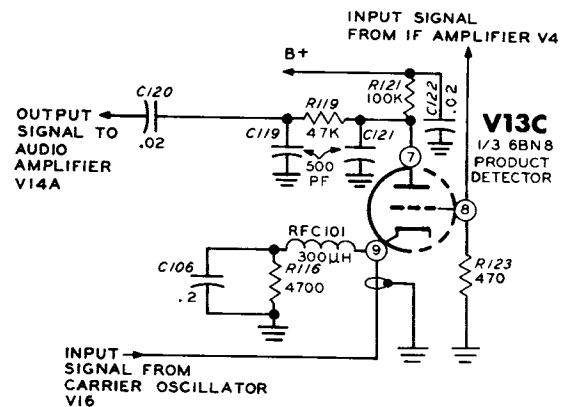

Figure 2-26
**Product Detector (Figure 2-26)**